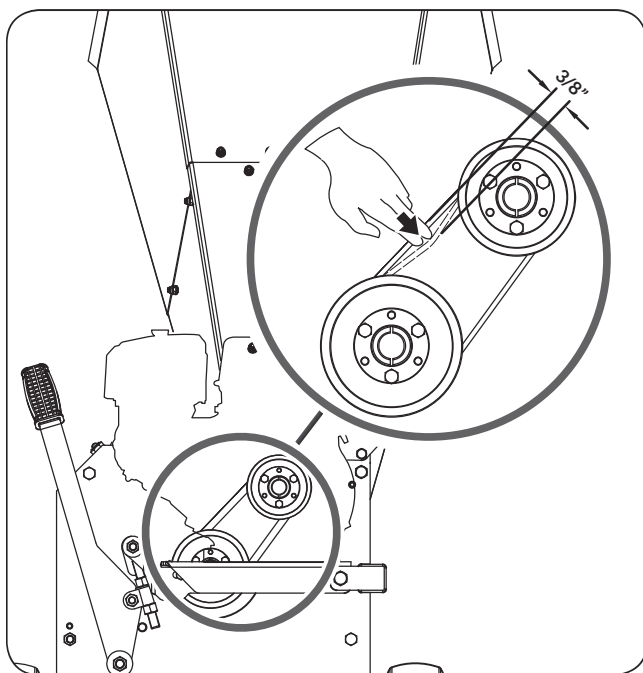

Figure 23
6. Check the V-belt tension by squeezing them in the center. The normal indentation on each side should be approximately 3/8 inch with moderate pressure from your thumb or finger. (See **Figure 23**)